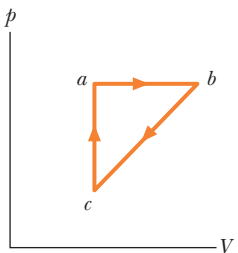

Figure 18-43 Problem 50.
**•50**  A lab sample of gas is taken through cycle  $abca$  shown in the  $p$ - $V$  diagram of Fig. 18-43. The net work done is  $+1.2$  J. Along path  $ab$ , the change in the internal energy is  $+3.0$  J and the magnitude of the work done is  $5.0$  J. Along path  $ca$ , the energy transferred to the gas as heat is  $+2.5$  J. How much energy is transferred as heat along (a) path  $ab$  and (b) path  $bc$ ?